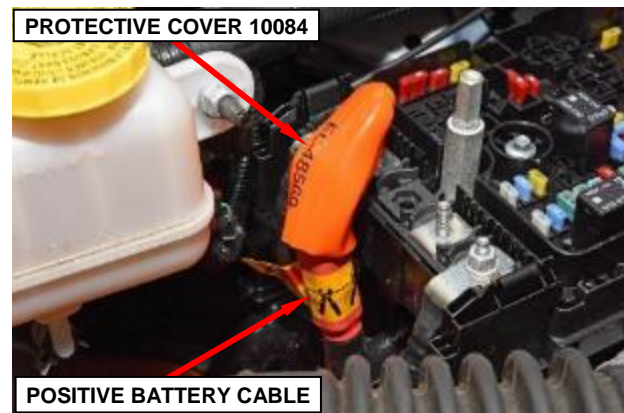

Figure 4 – Cover Cable Terminal
9. Isolate the positive battery cable terminal with protective cover 10084 (2035110082 equivalent) (Figure 4).